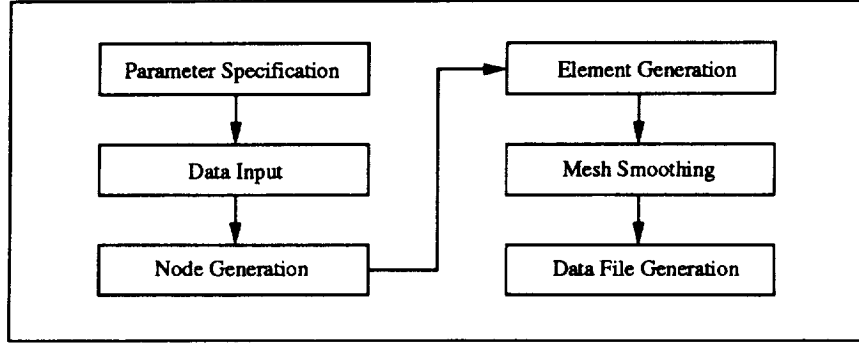

Figure 1: Six Modules in AUTOMESH-2D
There are six modules in the program as shown in Figure 1. In the first modules, the following five parameters are specified: (1) data input device; (2) echo mode of input data; (3) the shape of the exterior boundary of an analysis domain; (4) mesh generation of structures; and (5) node generation index N . The definition of each parameter will become obvious later.